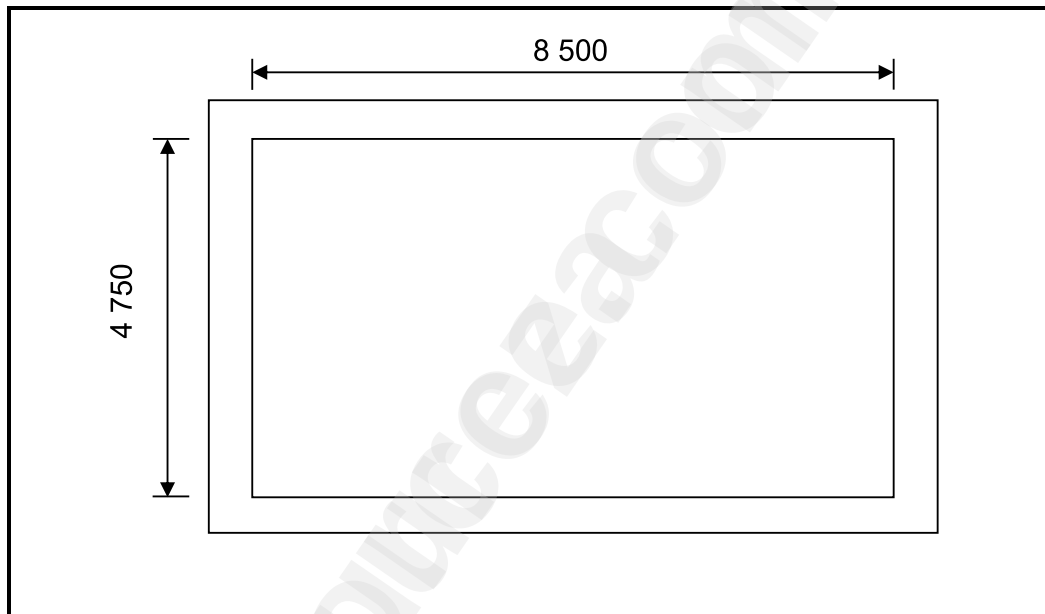

FIGURE 6.9
- 6.9 FIGURE 6.9 shows the foundation strips with inside measurements for a storeroom. The foundation is 700 mm wide and 250 mm thick. Answer the following questions in the ANSWER BOOK. Table format is NOT compulsory (Show ALL formulas and steps.)